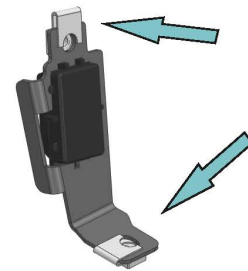

Fig. 22
22. Install U-nuts M6 (item J) on brackets for license plate light (item 3,4). (Fig.22).